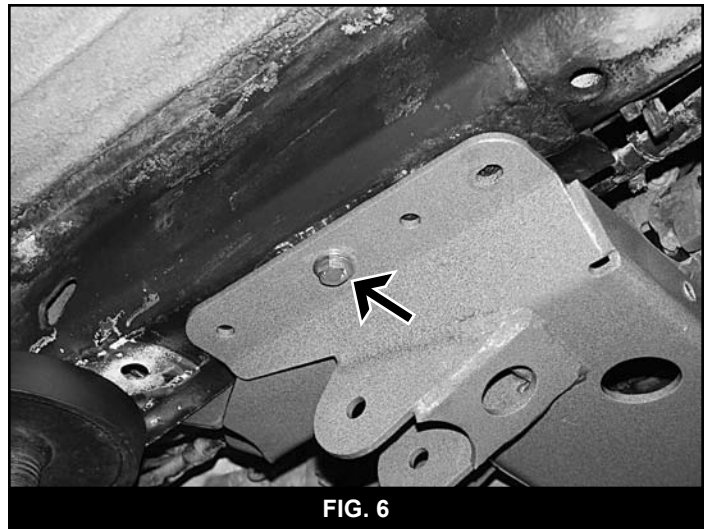

FIG. 6
14. With the help of an assistant, place the crossmember (01370) up to the uni-body and align the front threaded hole in the body with the front mounting hole in the crossmember. Loosely attach the crossmember to the frame with a 10mm x 30mm bolt and 3/8" USS washer (BP 715) in the second hole from the front of the crossmember on each side of the vehicle (Fig 6). **Note:** Make sure that the remaining loose plastic lines on the driver's side are to the inside of the upper control arm mount on the new crossmember.